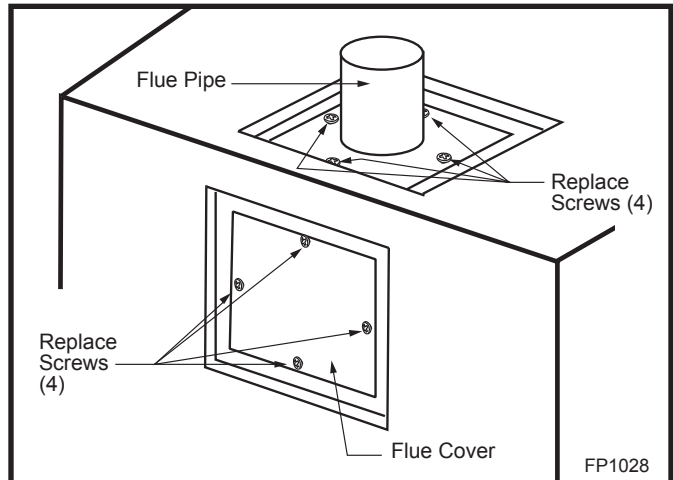

**Fig. 11** Remove screws from outer collar adapter.
1. Remove the 10 screws securing outer collar adapter to fireplace. (Fig. 11)